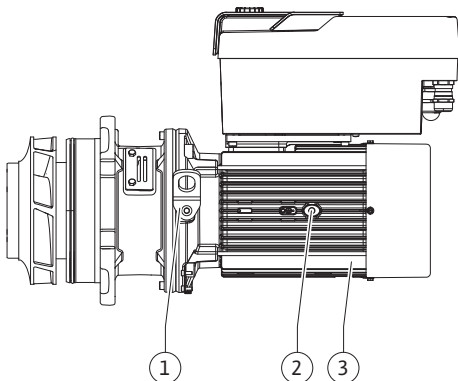

Fig. 102: Motor impeller unit
13. Insert the motor impeller unit (see Fig. 102) into the pump housing in the old or another desired angular position. Observe permitted installation positions of the components (see section "Permitted installation positions and change of the arrangement of components before installation" [► 140]).